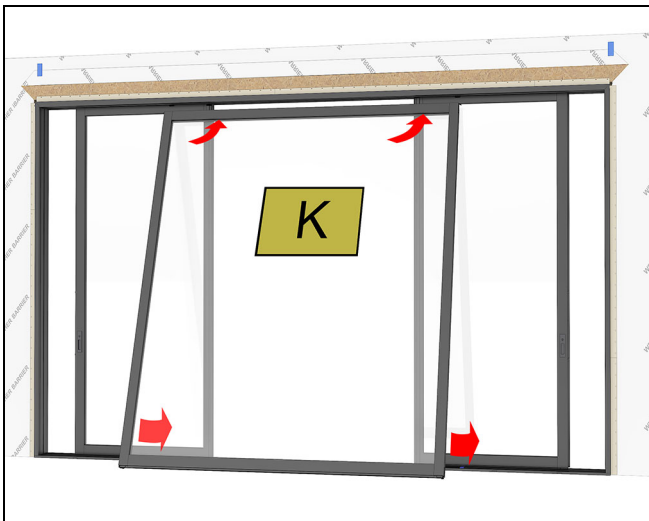
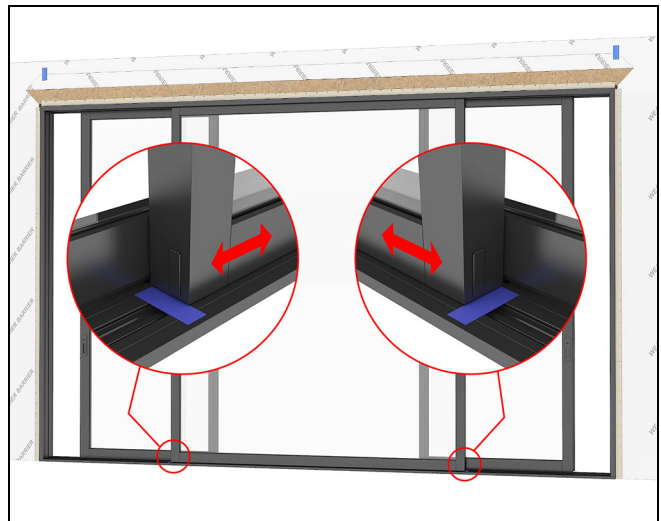

Figure 151 XOX shown with K panel
Figure 152
5. Install the (K) stationary panel. Line up the left outside edge of the panel with the left mark made on the sill earlier in step 3 on page 47. See Figure 151 and Figure 152.